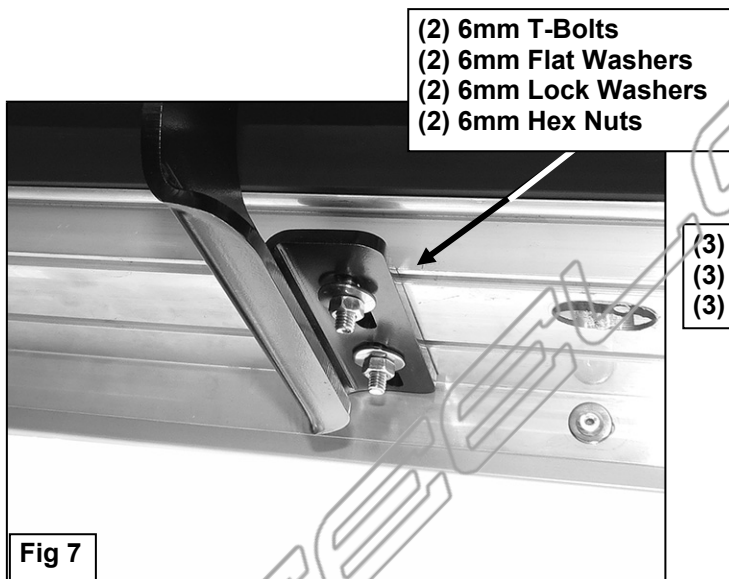

Fig 7
6. Hold the Running Board up to the vehicle at a slight angle and gently push it into position against the end of the Brackets. It may be necessary to loosen the Brackets to fit the Running Board between the Brackets and the body panel. Attach the Running Board to the Mounting Brackets with the included (4) 6mm Flat Washers, (4) 6mm Lock Washers and (4) 6mm Hex Nuts, (**Figures 7 & 8**). Do not tighten hardware at this time.